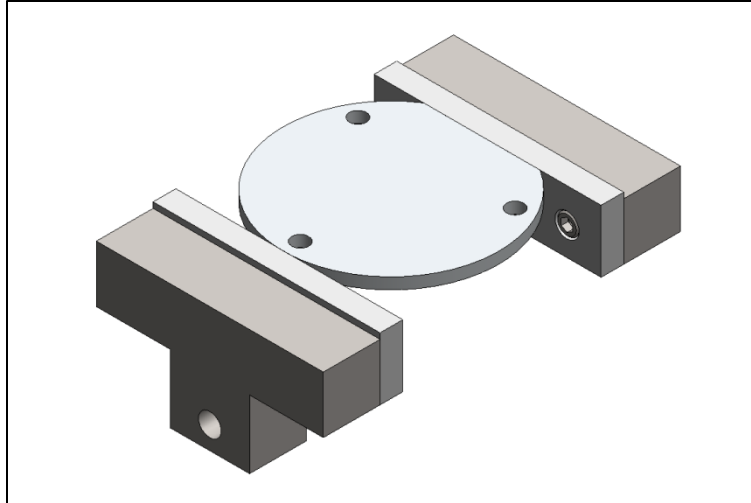

Figure 2.3 – Round part with flat self aligns in vise
- Flats on round parts. This allows for the part to be replaced into a vise with a known orientation for post machining or modifications at a later date from (See Figure 2.3)